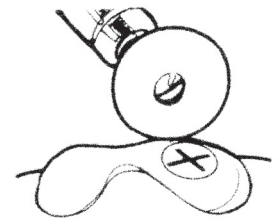

Fig. 6
2. After finishing, cut an "X" on the flattened occlusal surface (toward the lingual to allow room for the denture teeth) to create solder channels where the attachment will be mounted (Fig. 6).